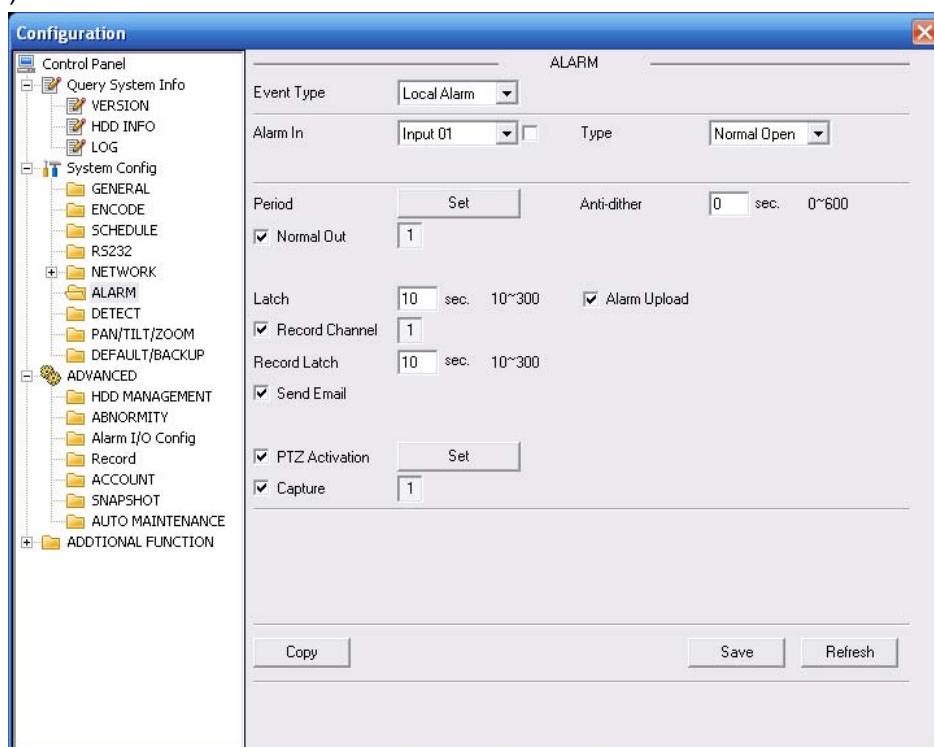

Figure 2-5
The alarm interface is shown as in Figure 2-5. Please follow the steps listed below for local alarm input and output connection.
- 3) Open the Web, go to the Figure 2-5. Please set the alarm input 01 port for the brown-pin (the 1st channel) of I/O port cable. The alarm input 02 is for the grey-pin (the 2nd channel) of I/O port cable. Then you can select the corresponding type (NO/NC.)